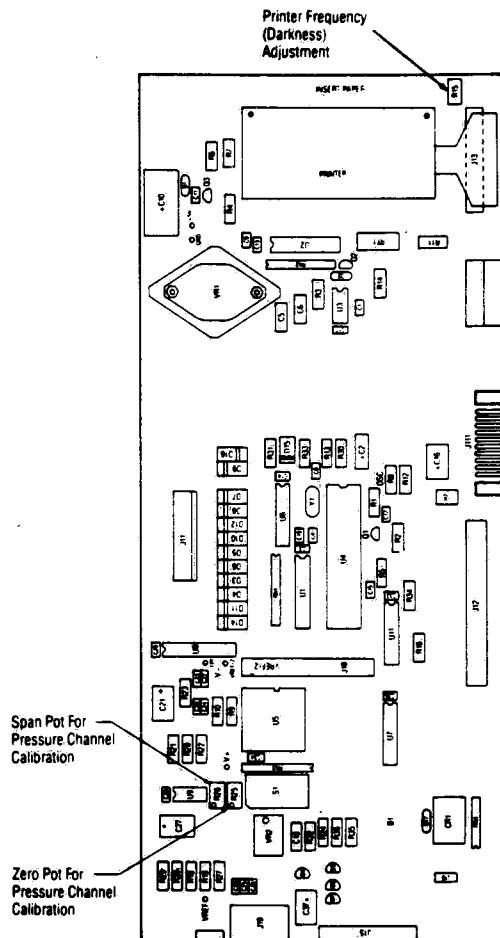

FIGURE 7-3 - Printer PC Board
3. Adjust R15 (accessible behind the platen) on the Printer PC board (Figure 7-3) while watching the display prompt...